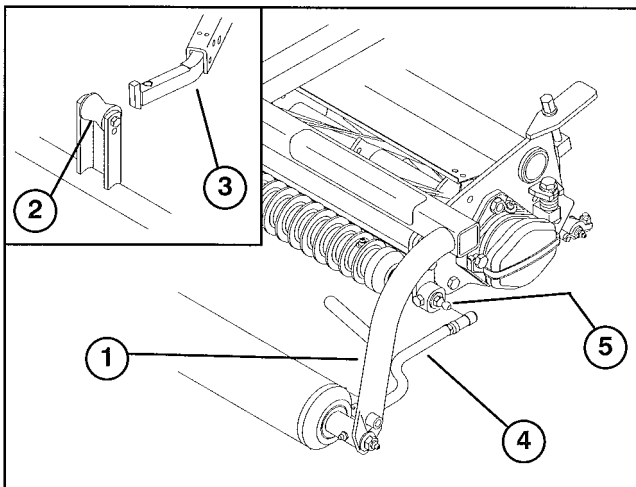

Figure 11
INSTALL CUTTING UNITS (Fig. 11 – 13)
- Mount a washer and ball stud to each end of front roller on cutting units (Fig. 11).
- Slide the cutting unit under the pull frame while hooking the lift roller onto lift arm (Fig. 11).